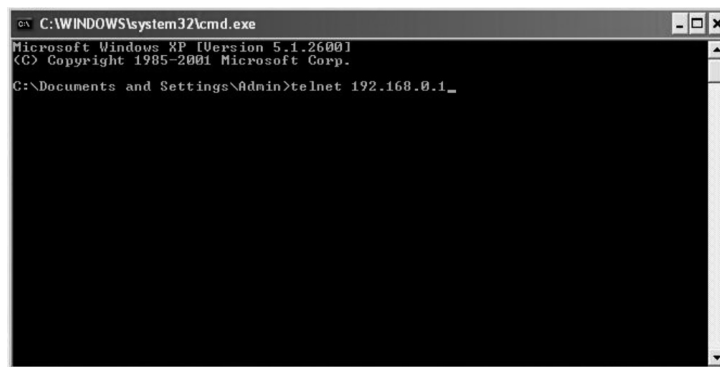

Figure 5-11 Connecting to the Switch
5. Type in telnet 192.168.0.1 in the command prompt shown as Figure 5-11, and press the Enter button.